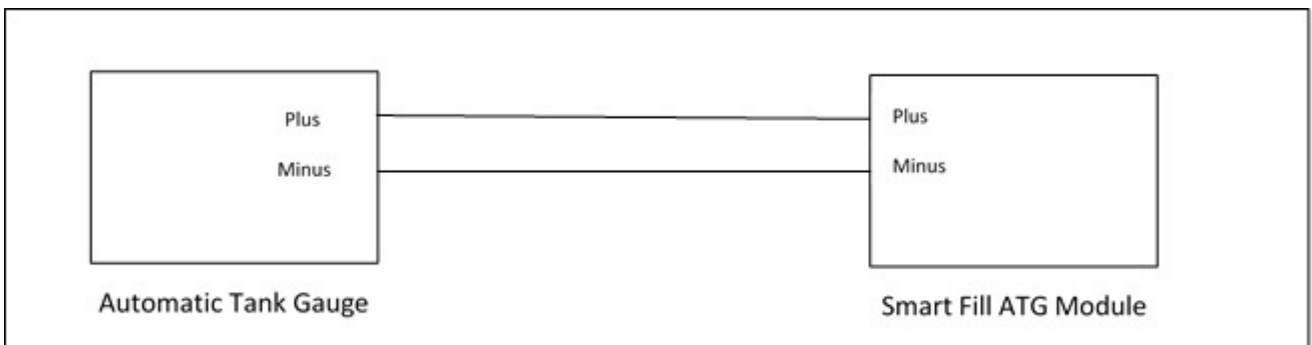

Figure 4.2: RS485 Wiring
RS485 requires a two (2) wire interface. The two (2) wires are Plus and Minus. Interconnect the two systems in accordance with Table 4.3 and Figure 4.2.